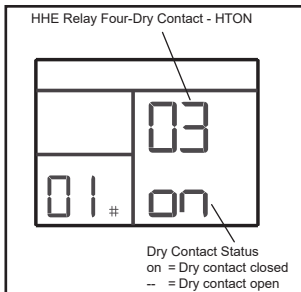

Figure 13. On/Off Status of HHE Relay - HTON
- On/Off status of dry contact three (HTON)(Figure 13)